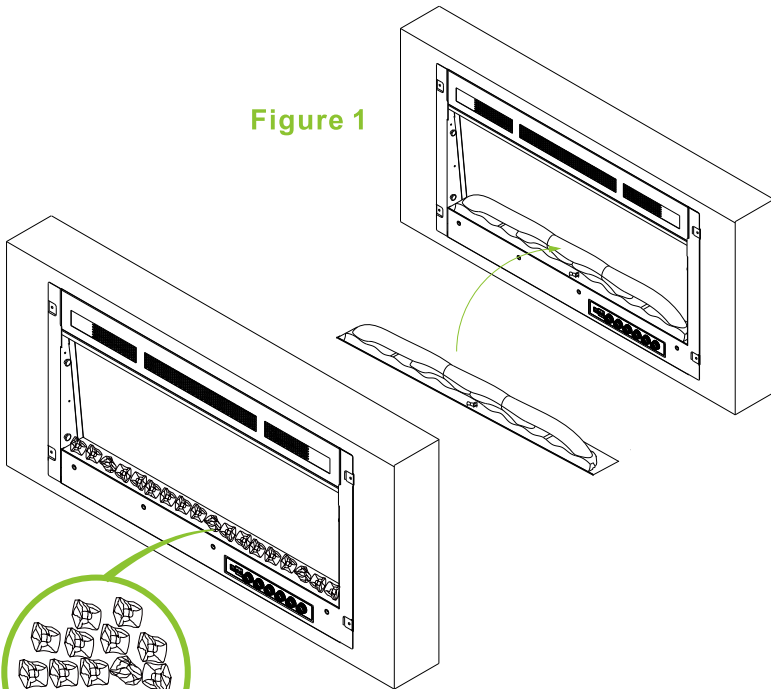

Figure 2.(Crystal medias)
- C** Place unit faces down on a soft, non-abrasive surface. Remove the bracket from the back of the unit by removing the screws, refer to Figure 1. Remove four pcs of silver screws at both sides, refer to Figure 2.
- D** Then carefully place crystal embers into the bottom tray on the front of the appliance as illustrated . Apply an even layer from side to side . Figure 2